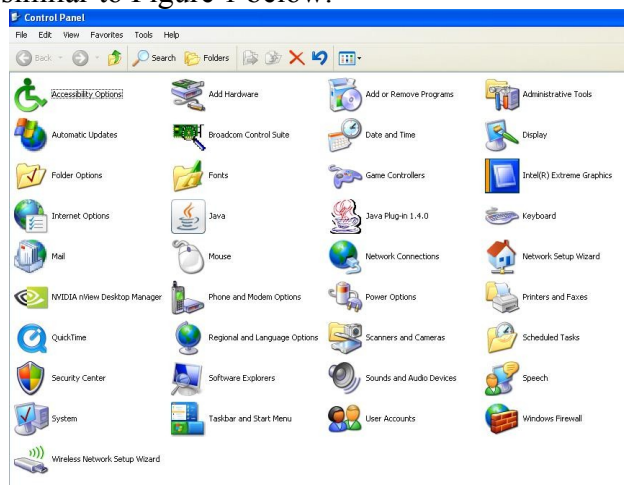

Figure 1
1. Select Control Panel from the Windows Start button. The screen should look similar to Figure 1 below.